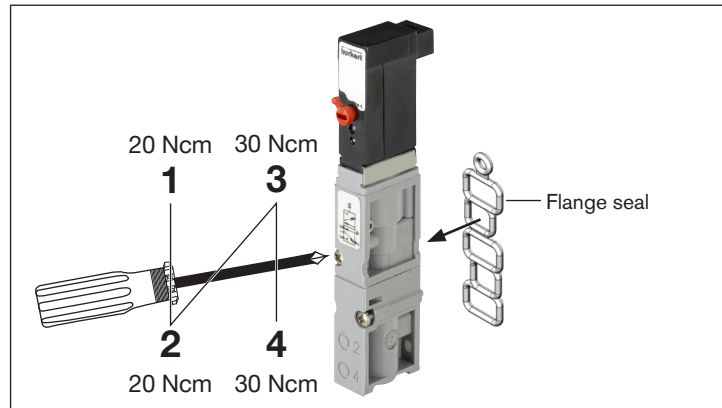

Fig. 3: Installation of the valve on the valve block, tightening torques
- Place the valve on the valve block, ensuring that the flange seal is correctly inserted (see “Fig. 3”).
- Screw on the valve (for sequence and tightening torques see “Fig. 3”).